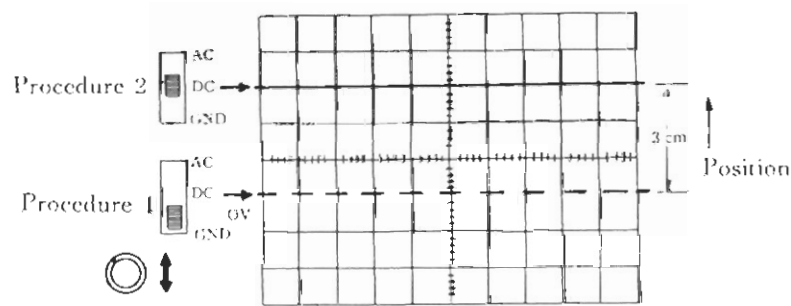

Fig. 3-5 DC voltage measurement.
2. Adjust vertical positioning to set the trace on center horizontal line for 0V, see dashed line in Fig. 3-5 (actually the trace is continuous).